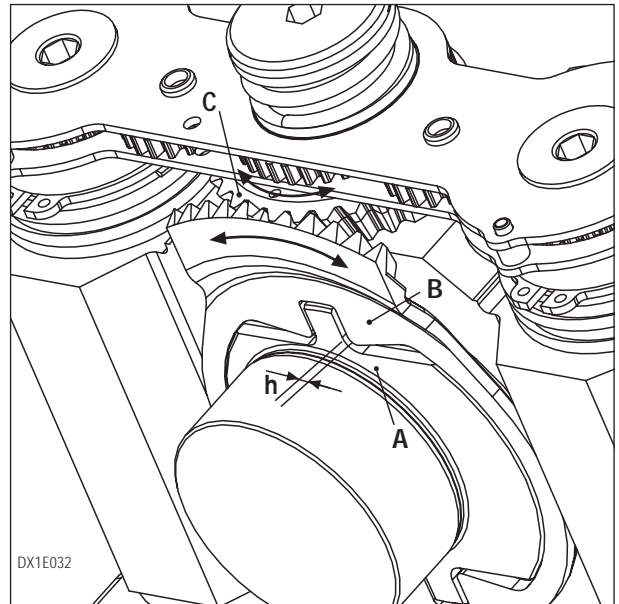

Fig. 2-5 Step 2
- c) Eccentric shaft A begins turning within the gear plate segment, eliminating clearance "h" between the adjuster gear section slot B and the shaft integral tab sides (Fig. 2-5).
- d) Adjuster gear segment begins to turn causing the rotation of bevel gear adjuster C (Fig. 2-5).